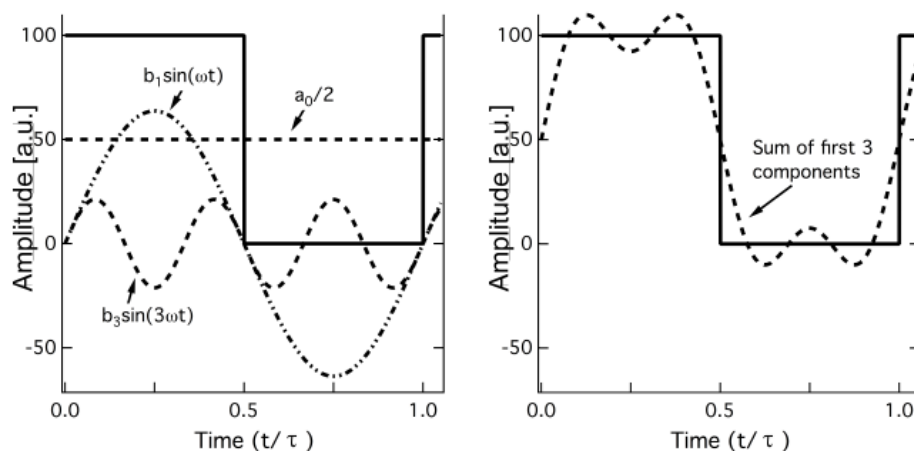

Fig. 1.1: Fourier components (harmonics) of a square wave up to $n = 3$.
- Use your calculated coefficients to plot the Fourier series of the square function using Eq. (1.1) and add it to your plot (see Fig. 1.1). The $n = 1$ component is known as the 'fundamental frequency' - why?
Visit the *ImpVis (Imperial Visualisations)* website and check out the ‘Fourier series’ visualisation to see a similar plot to Fig. 1.1 and much more: